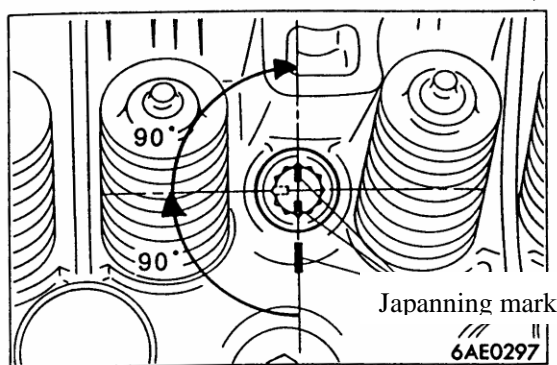

Fig.4-36
- g Paint mark on the bolt head and cylinder head (like it in the picture) , see Fig.4-36.